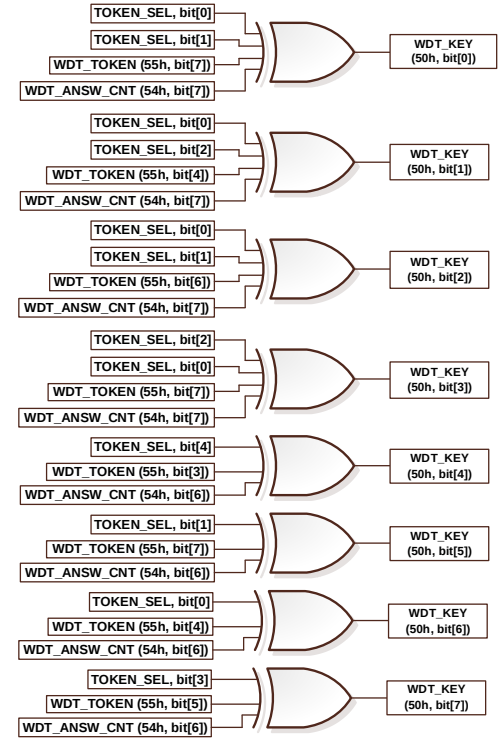

Figure 34: Question and Answer Generation for Q&A Mode
6. In a watchdog sequence, the microcontroller must perform a pre-defined calculation formula (see Figure 34 on page 55) to calculate the corresponding 8-bit answer based on the watchdog question and answer count. These answers are only applicable to this particular watchdog sequence. According to the answer count order of 2'b11, 2'b10, 2'b01, and 2'b00, these answers are called Answer-3, Answer-2, Answer-1, and Answer-0.